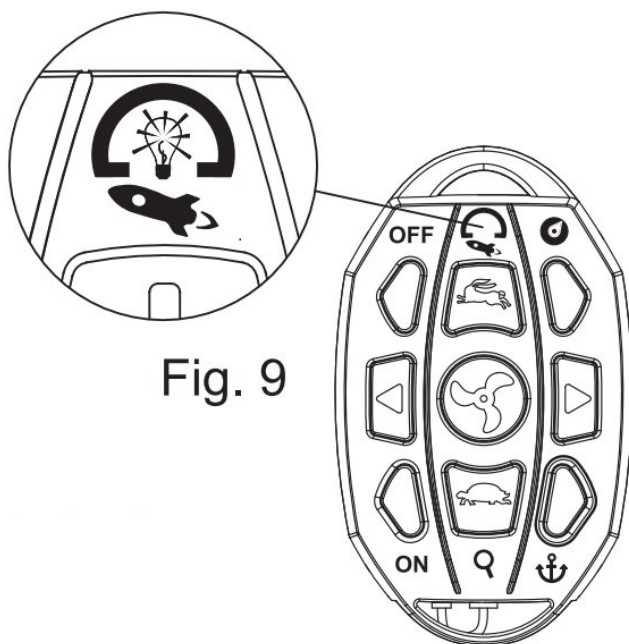

Fig. 9
4. Press "OFF" button to turn of remote control. Light is now off. **(Fig. 9)**